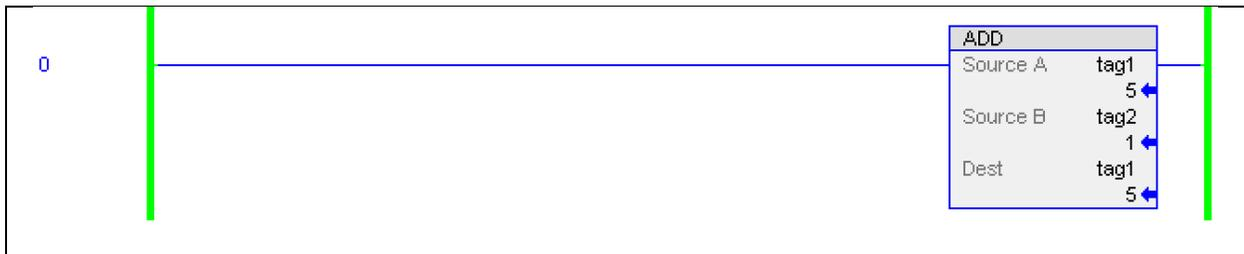

Figure 8. Verifying that the R1 Routine is being scanned.
1. Double click on the R1 Routine within the T1 Task, as shown in Figure 8.